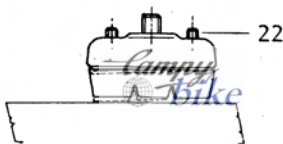

Fig. 2
- 3) By loosening the nut 16 and turning the shoe 21 on the concave base of the washer 20, axis B becomes parallel with the lateral surface of the rim. (fig. 2).